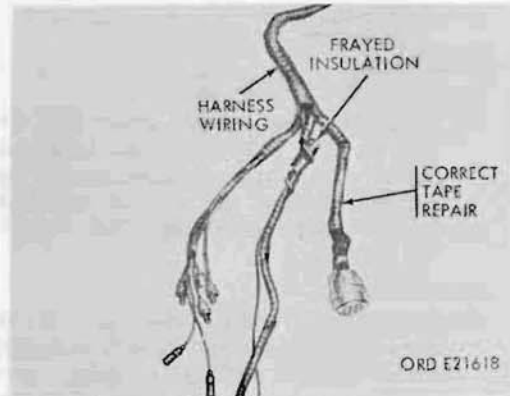

Figure 158. Repair of frayed or damaged harness
- a. Remove cracked or peeled cable assembly (fig. 158).